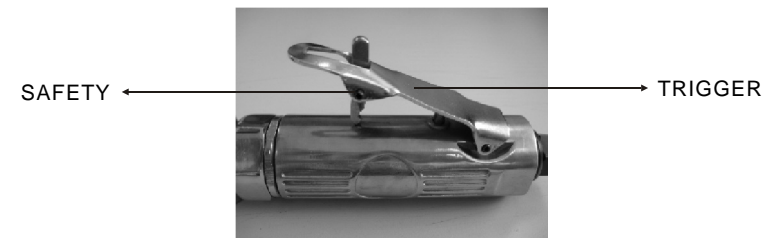

Fig. 2
- Trip the safety with your finger. Then slowly apply hand pressure to the trigger until the desired speed is obtained. **NOTE: The tool always turns the Grinding Drum/Drill Chuck clockwise. (See fig. 2)**